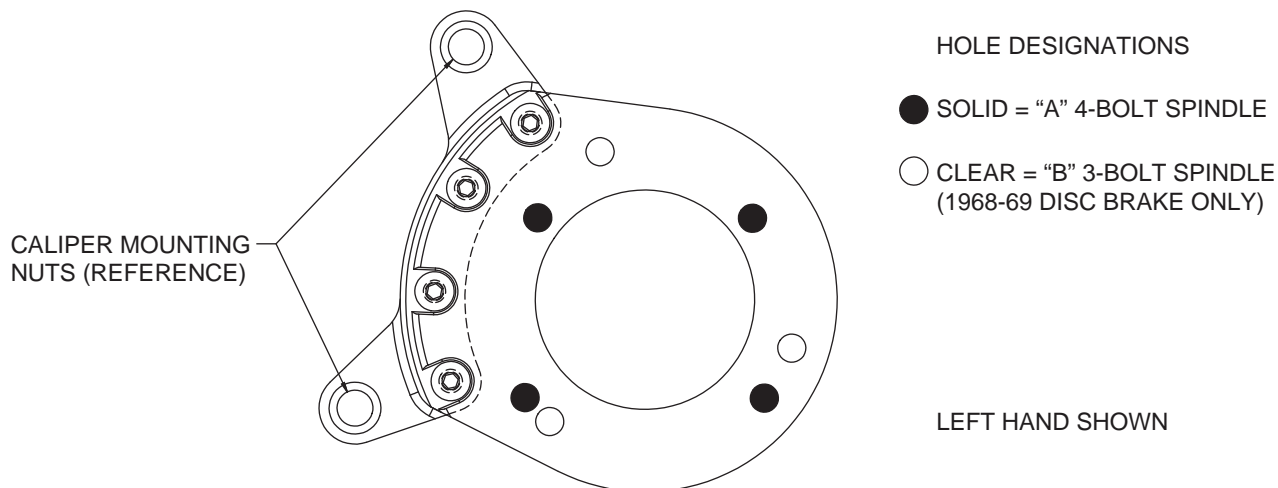
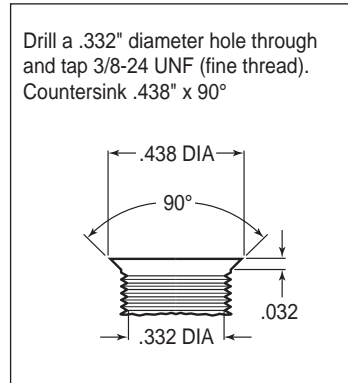

Figure 1. Wilwood Caliper Mounting Bracket
Figure 3. Drill and Tap Detail
This kit has been designed for use with both the disc brake or the drum brake configuration of vehicle. The only difference is in how the Wilwood caliper mounting bracket is installed. The same bracket is used for both configurations; the disc brake version utilizes three mounting holes while the drum brake application uses four mounting holes (see Figure 1). For your convenience we have supplied bolt kits for both applications (see parts list and Figure 2 as necessary). Use the bolt kit that is applicable to your vehicle and disregard the other one.
NOTE: This modification should be performed by a qualified machinist and completed before assembly of the Wilwood disc brake kit begins. Using the caliper mounting bracket as a template (refer to Figure 1 as necessary), locate and verify the three original holes on the spindle that need to be modified. Drill a .332" diameter hole through all three holes, then tap 3/8-24 UNF (fine thread). Countersink the holes to .438" diameter x 90°, as shown in Figure 3.
•**NOTE:** This kit uses the same mounting bracket (1) for both the drum and disc brake spindles. The drum version, Photo 1, uses four mounting bolts (designated "A"), while the disc version, Photo 2, uses three (designated "B"). Refer to Figures 1 and 2 for the basic installation position of the bracket and the "A" and "B" reference designations (not physically marked on the brackets).